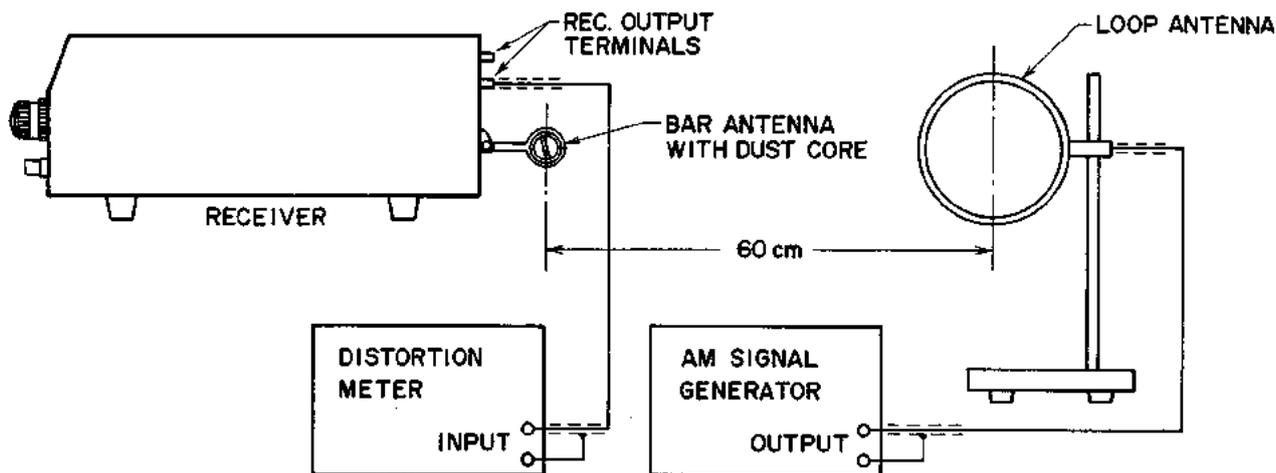

Fig. 16 INSTRUMENT CONNECTIONS
- 1) Connect the various measuring instruments as shown in Fig. 16.
- 2) Measuring instrument connections are the same as described in Tracking Adjustments. (Refer to Fig. 16)
- 5) Adjust dust core of Bar Antenna shown in Fig. 16 until the distortion meter level is maximum and the distortion factor is minimum.
Bar Antenna Dust Core (Low Range)	Fig. 16